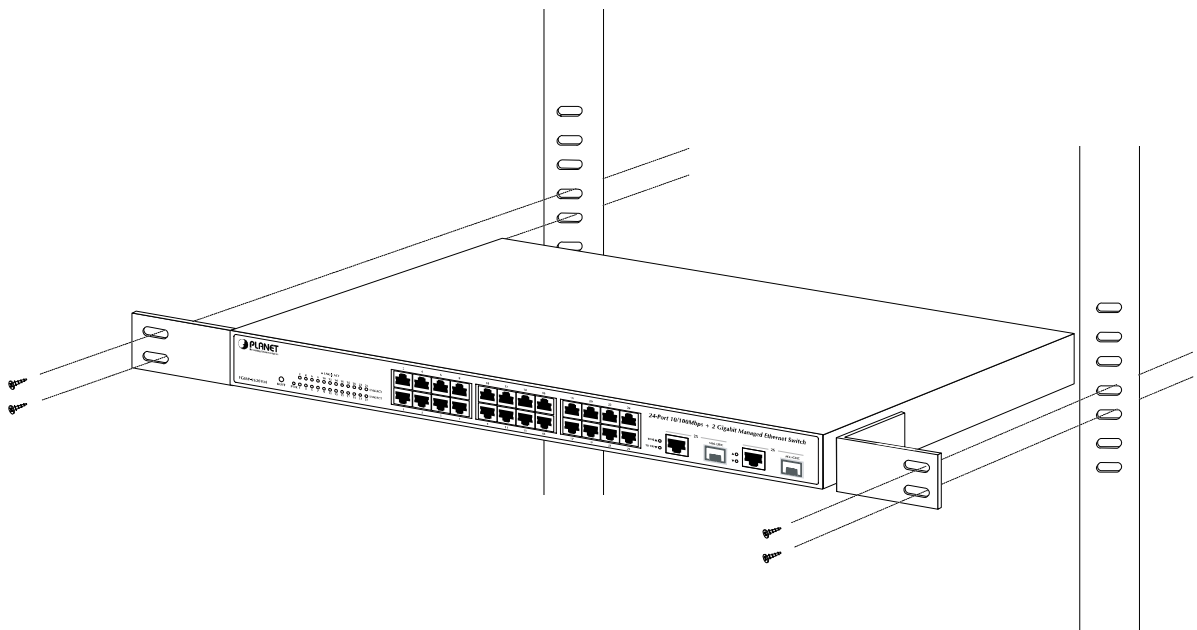

Figure 2-15: Mounting the Switch in a Rack
Step5: After the brackets are attached to the Managed Switch, use suitable screws to securely attach the brackets to the rack, as shown in Figure 2-15.